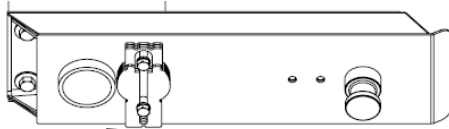

Figure 19
3. Install the universal wedge into the position for Sidewinder™ feature activation (figure 19) , in the proper orientation for your fifth wheel. The bolts will not be fully tightened at this time. Only tighten the (2) 5/8-11 X 1 3/4" wedge bolts until the conical washers begin to engage. The wedge should be allowed to slide with the rap of a hammer or mallet.